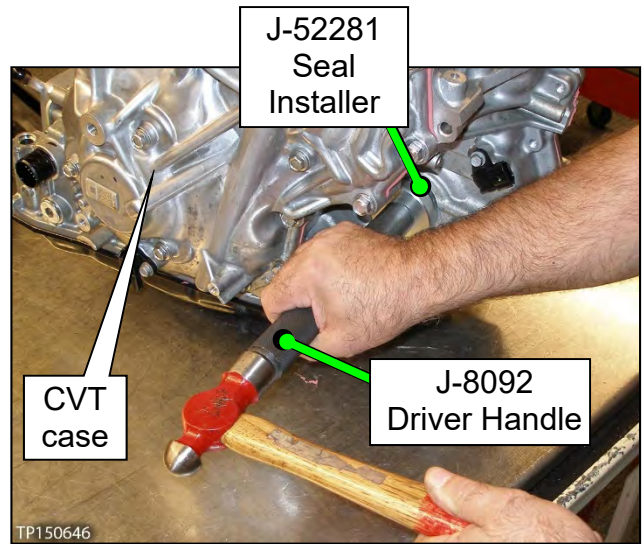

Figure 108
86. Install the CVT case side axle seal (Figure 108).